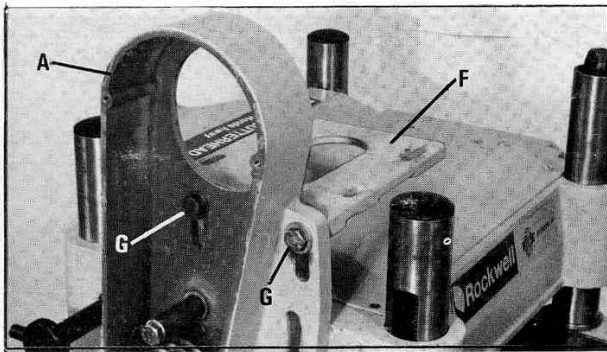

Fig. 12
2. Assemble motor plate (F) to belt guard (A) using two screws and washers (G), as shown in Fig. 12.